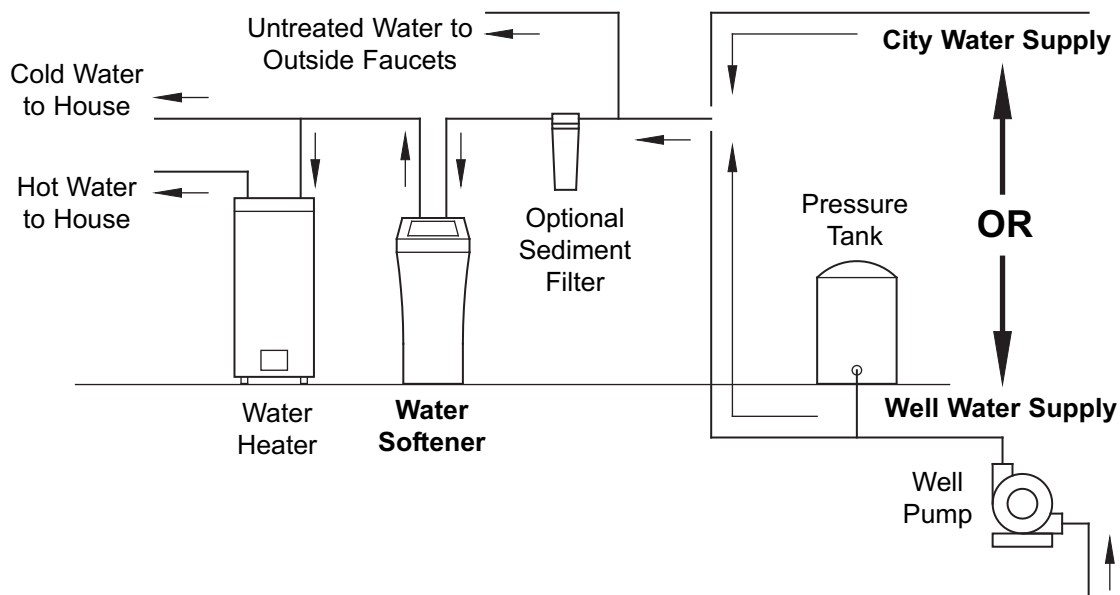

FIG. 4
- Always install the water softener between the water inlet and water heater. Any other installed water conditioning equipment should be installed between the water inlet and water softener (See Figure 4 below).